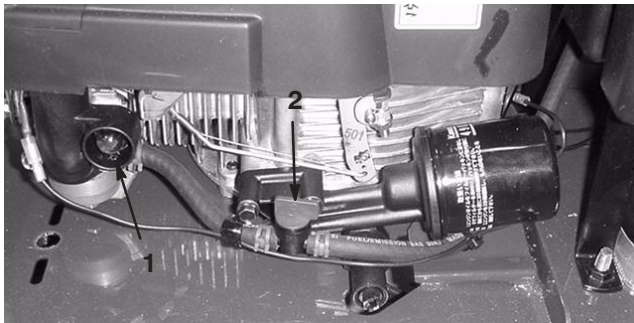

Figure 14
Press in the primer three times before starting a cold engine (Fig. 14).
The fuel shut-off valve is located on the left side of the engine. Close the valve to stop the fuel flow from the fuel tank and open the valve to allow the fuel to flow to the carburetor (Fig. 14). Close the valve when transporting the line painter or when it is not in use.
5. Press the primer three times (Fig. 14).